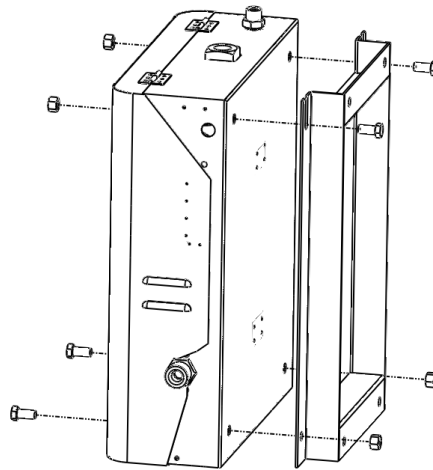

Figure 1
2. Remove four M12 hex head bolts from the mounting bracket on the back of the manifold control module as shown below (Figure 1). Lift the manifold away from the mounting bracket and set aside.